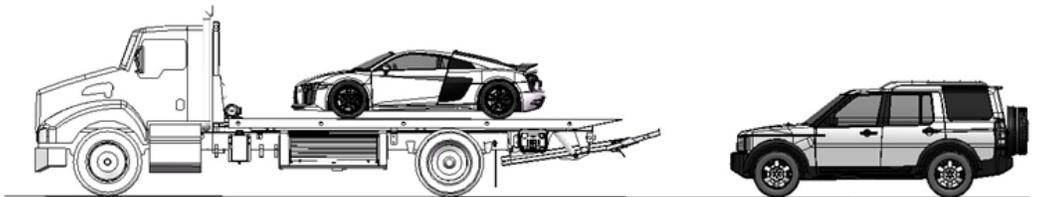

FIGURE 39 – POSITIONING THE TRUCK
A load must be on the carrier before you use the wheel lift for towing another vehicle, as shown in Figure 39.
2. Align the truck with the vehicle to be towed. Position the truck three to four feet from the vehicle to be towed, as indicated in Figure 39.